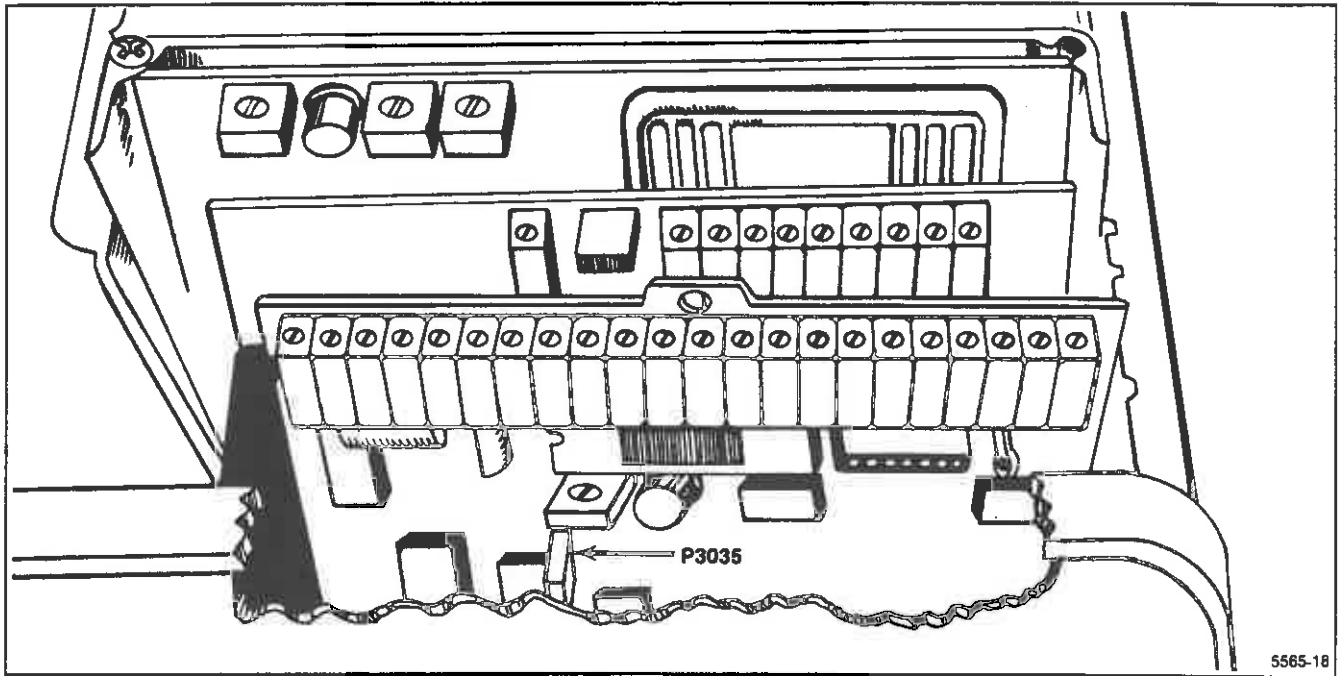

Figure 5-11. P3035 on the Video Processor board.
a. Set the Log Amplifier correction factors to zero by pressing <SHIFT> 0 (DIAGNOSTIC FUNCTIONS) and selecting item 5 (DISABLE/ENABLE USE OF CAL FACTORS), then item 2 (SET RESULTS TO "UNCALED"). Remove Leveler Disable plug P3035 on the Video Processor board (Figure 5-11).